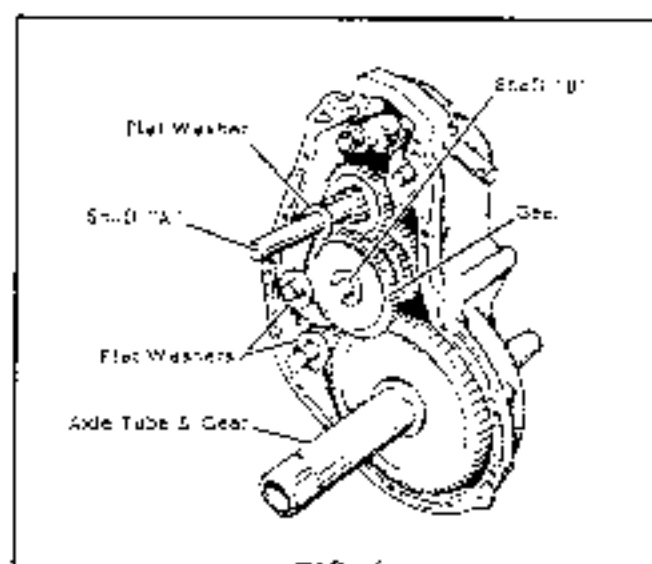

FIG. 6
9. Place 2 greased flat washers over face of bearing "E" and place axle tube and gear in place in the bearing. See Fig. 6.
10. Assemble the gear to end of shaft "B", with the beveled edge facing gear cluster on shaft "A". Place a greased flat washer on shaft "A" and on end of shaft "C" and shaft "D". Add 2 flat washers to axle tube. See Fig. 6.